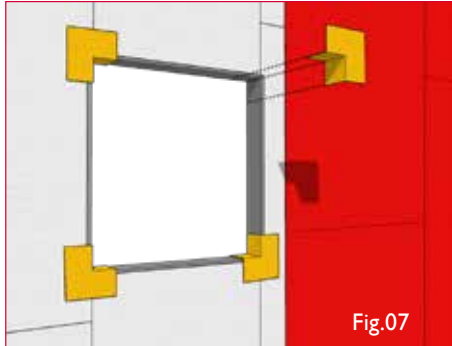

Fig.07
2. Install Corners before Wraptite Membrane reaches the edge of the opening. Use a roller to ensure Corners are well-adhered to the substrate (Fig. 07).